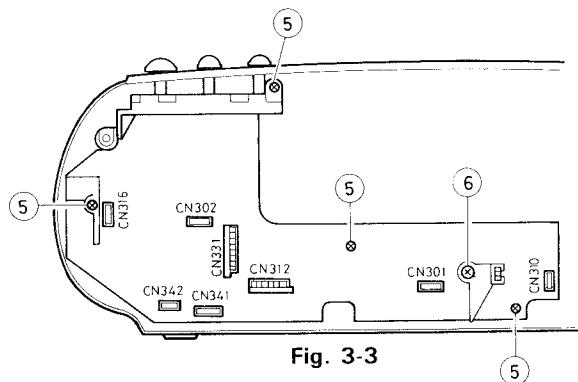

Fig. 3-3
- Remove CN331 from the amplifier circuit board. (See Fig. 3-3.)
- Remove motor/leaf switch wire CN302 that leads to the amplifier circuit board. (See Fig. 3-3.)
- Remove the 4 screws ③ of the mechanism assembly. Then remove the head wire from CN301 of the amplifier circuit board. (See Fig. 3-3.)
2. Remove the 4 screws (5) that fastening the circuit board. (See Fig. 3-3.)
3. Remove the screw (6) fastening the recording arm.